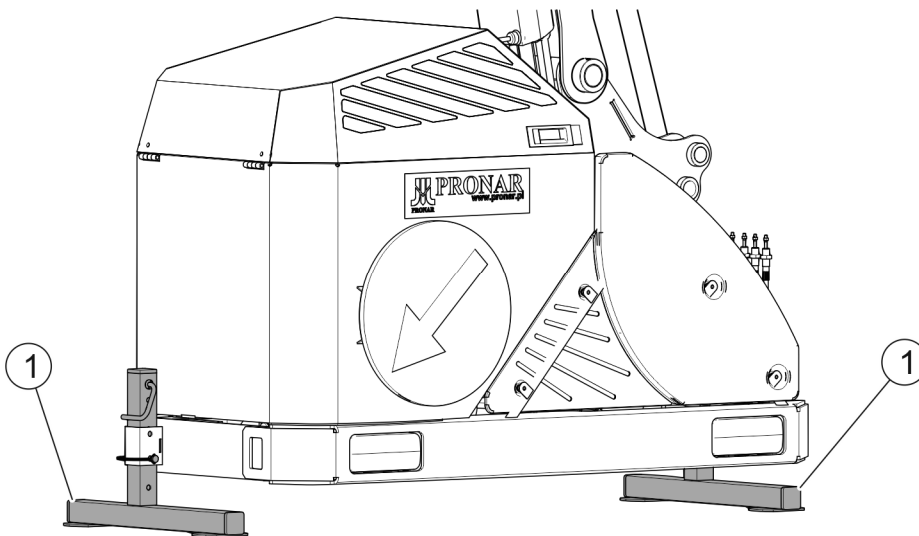

FIGURE 1.2 Support feet of multifunction arm during loading.
During loading and transportation the multifunction arm should stand on support feet (1) (FIGURE 1.2) extended and locked on both sides of the arm at the same height.